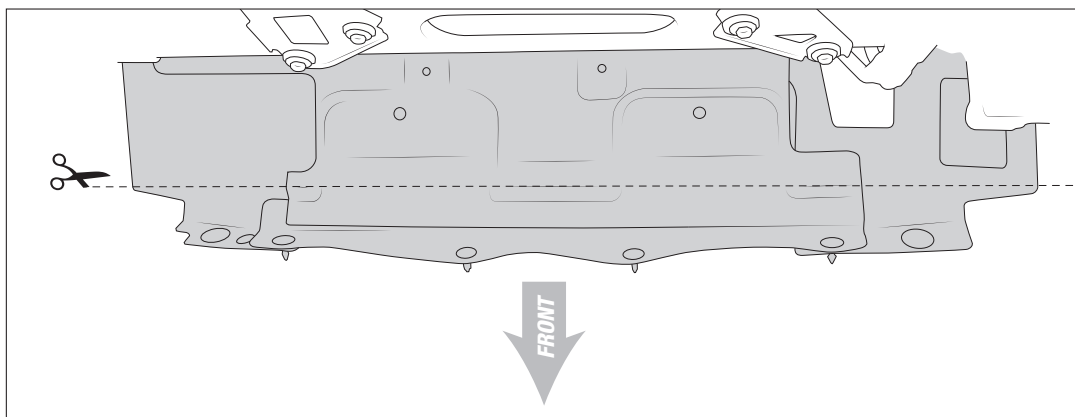

Figure 13
19. **For 2014+ GAS trucks**, trim the lower radiator shroud as shown (fig. 13).